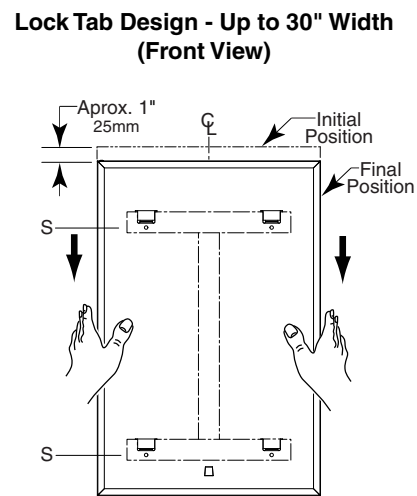

Figure: 4
**Lock Tab Design** — Locking devices automatically secure mirror to concealed wall hanger when it is lowered into final position (see figure 4). Locking device may be unlocked by sliding a flat-blade screwdriver or Key between mirror and wall at center of mirror and depressing tab on back panel. If key is required, please contact the factory.